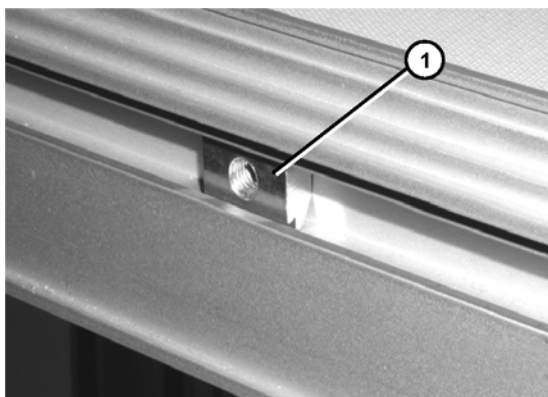

Figure 5
1. Install t-bars (**Figure 5, item 1**) into conveyor t-slot.